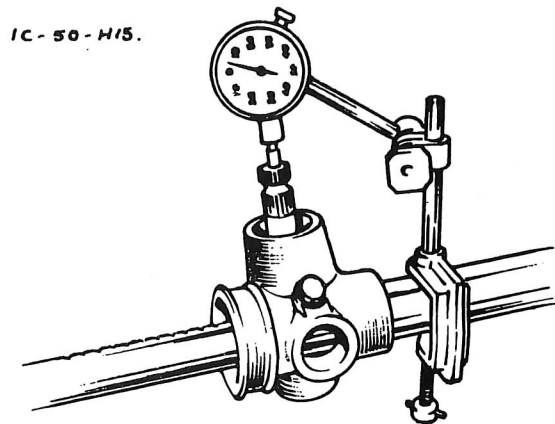

Fig. 14. MEASURING PINION END FLOAT
- b. Mount a dial gauge on the tube as shown in Fig. 14. Push the pinion down to its limit and zero the dial gauge. Lift the shaft until the retaining ring contacts the circlip and note the dial reading. This represents the total pinion shaft end float. Remove the circlip and withdraw the pinion shaft assembly. Remove the retaining ring and fit a new rubber 'O' ring.